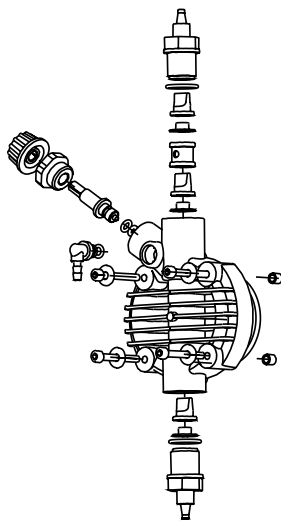

Fig. 10
- the additive concentration in the pipework; a reduction of this concentration could be caused by the wearing of the valves, in which case they need to be replaced (Fig. 10) or by the clogging of the filter which then has to be cleaned as in point 3 here below.
This operation can also be done with the pump disconnected from the plant by turning the pump upside-down for 15 to 30 seconds and without connecting the hose to the nipples; if impossible, dismount and remount the pump head (Fig. 10) using the four mounting screws.
As the system is quite robust there are no apparent mechanical problems. Occasionally there might be a loss of liquid from the nipple because the tube nut has loosened, or more simply the discharge tubing has broken. Very rarely there may be losses caused by the breakage of the membrane, or by the membrane seals in which case they have to be replaced by disassembling the four screws of the pump head (fig. 10), when re-mounting the pump head ensure that the screws are replaced properly, along with “O” ring. After repair, the metering pump will need to be cleaned of additive residues which can damage the pump casing.
- a. Dismount the suction and discharge valves, clean them and replace, see position (fig. 10). Should the valves be swollen, check valves material against our chemical resistance compatibility chart and fit correct valves. Standard valves are Viton. Upon request ball check valve, can be supplied.